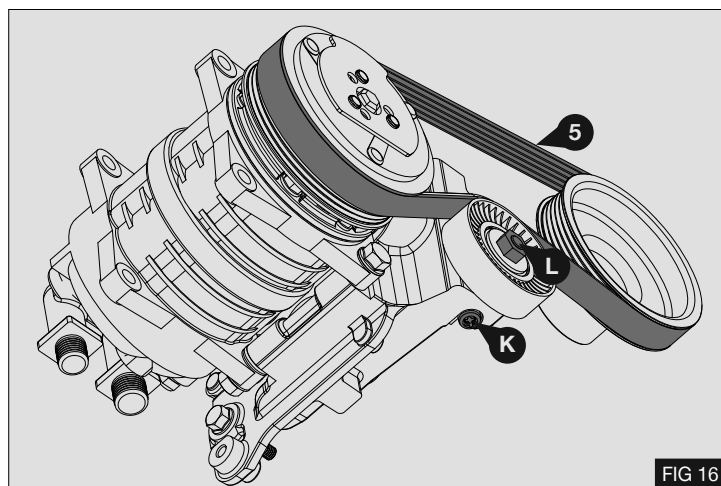

FIG 16
4. Tension the drive belt (5) using a T-40 Torx on the adjuster bolt (K) When the correct tension (new belt level) has been achieved (see table). Torque tensioner lock nut (L) to 25Nm / 18lb. ft. using a calibrated torque wrench - Fig 16